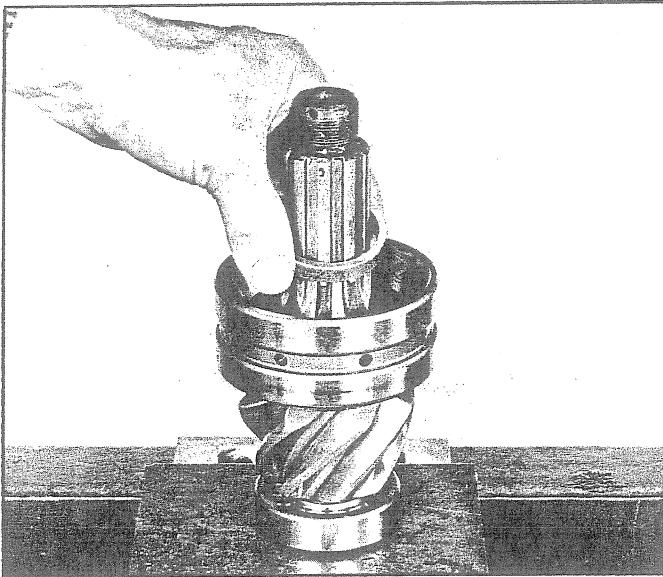

Fig. 114 - Installing Bearing Spacer
- c. Position bearing spacer and one .010 inch shim over pinion shaft and against inner bearing cone. See Fig. 114. (A pinion bearing and shim kit is provided for service repair. This kit, consisting of a spacer and a quantity of shims is used to obtain the correct bearing preload).